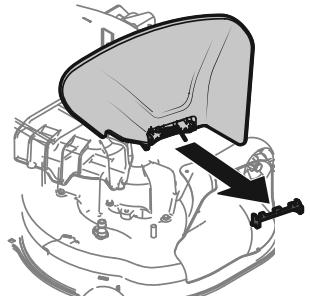

Figure 12
- Lower the chute deflector and discard the shipping brace. See Figure 12.